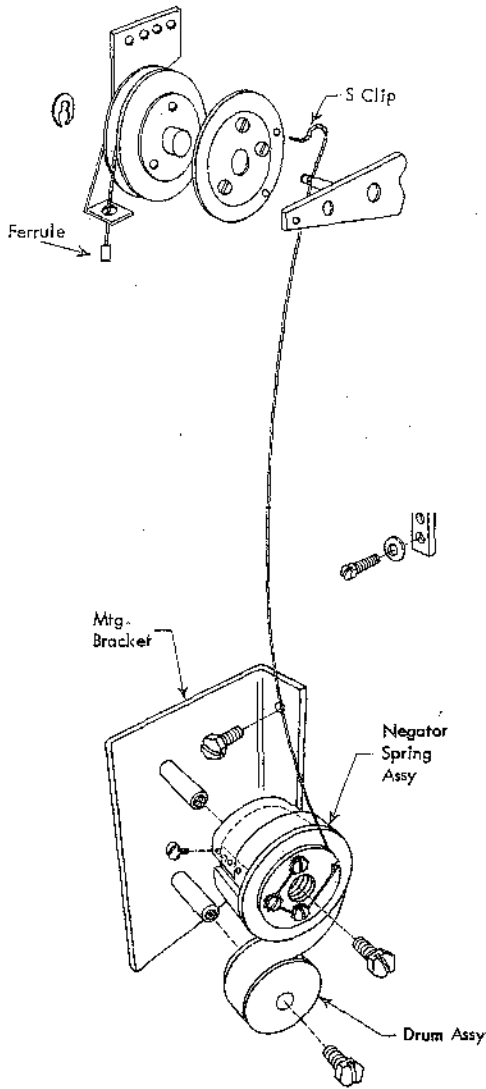

Figure 3-14. Sliding Glass Spring Drum Pulley Assembly
4. Loosen the three screws on the lower drum assembly (Figure 3-14).